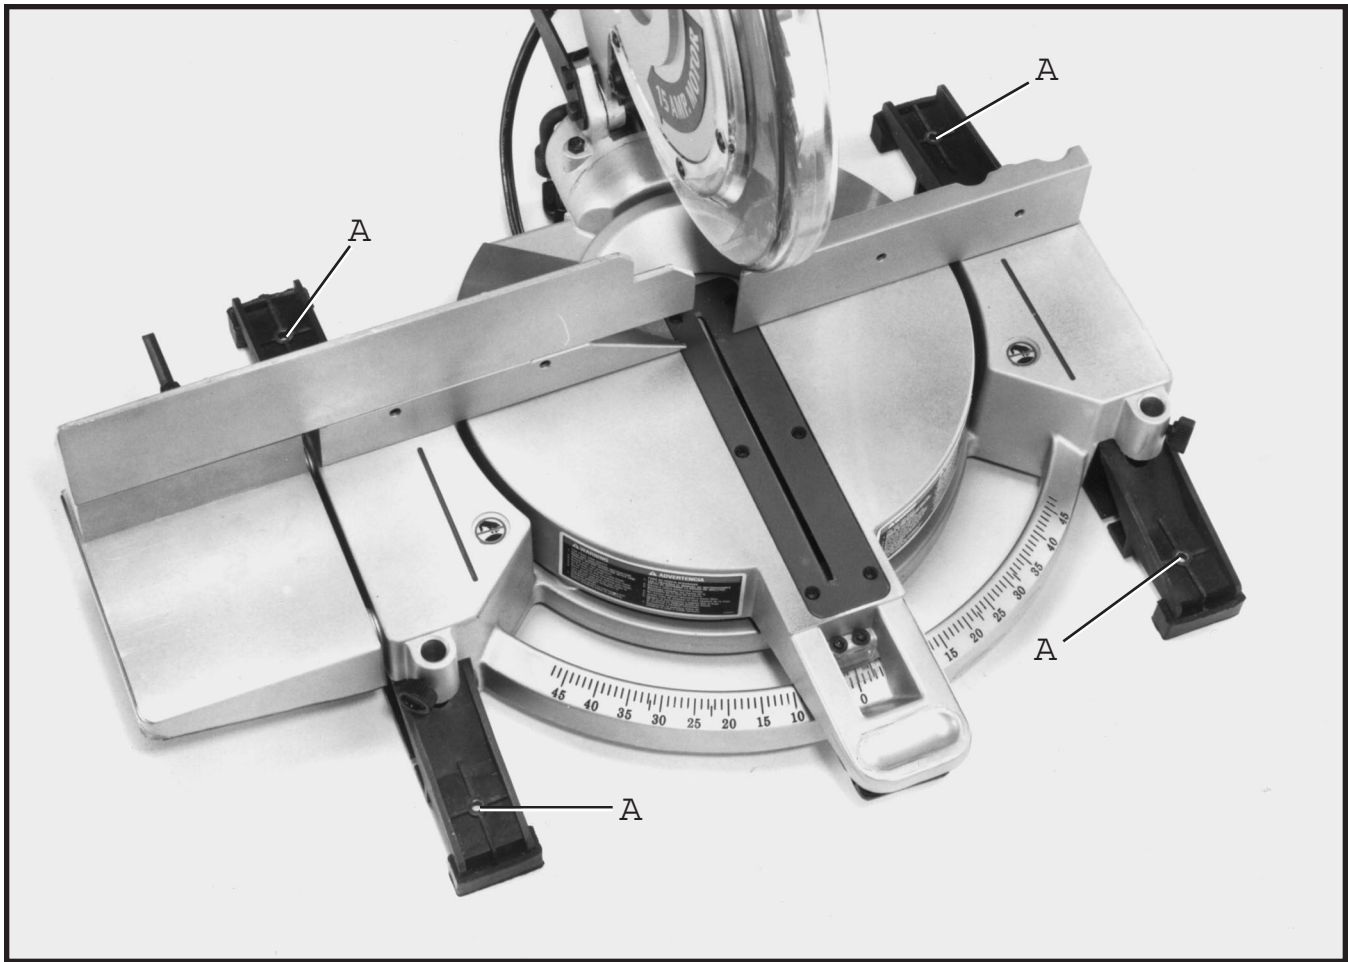

Fig. 11
Before operating your compound miter saw, make sure it is firmly mounted to a workbench or other supporting surface. Four holes (A) Fig. 11, are provided for fastening the saw to a supporting surface.